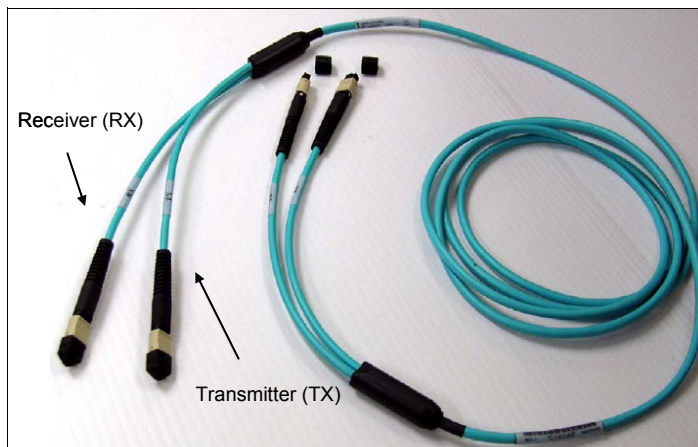

Figure 4-7 OM3 50/125 μ m multimode fiber cable with MPO connectors
Important: The HCA3-O fanout has two ports (1 and 2). Each port has one connector for transmitting (TX) and one connector for receiving (RX). Ensure that you use the correct cables. An example is shown in Figure 4-7.